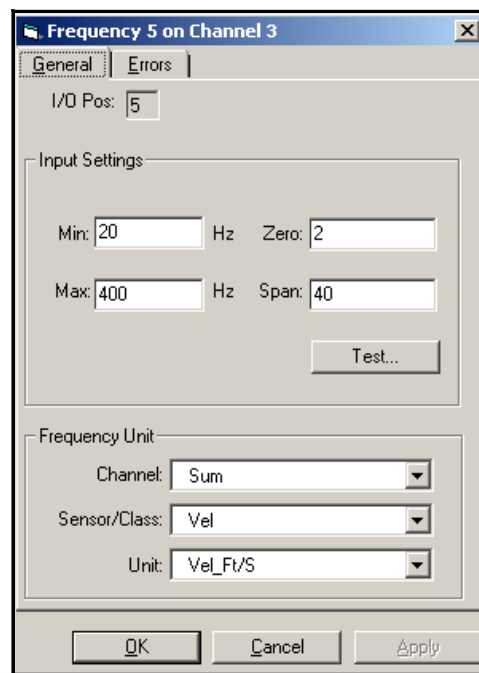

Figure 53: Frequency Properties
6. In the Frequency Unit section, select the desired output for Channel, Sensor/Class and Unit from drop-down menus, and click on Apply. The window should look similar to *Figure 53* below.